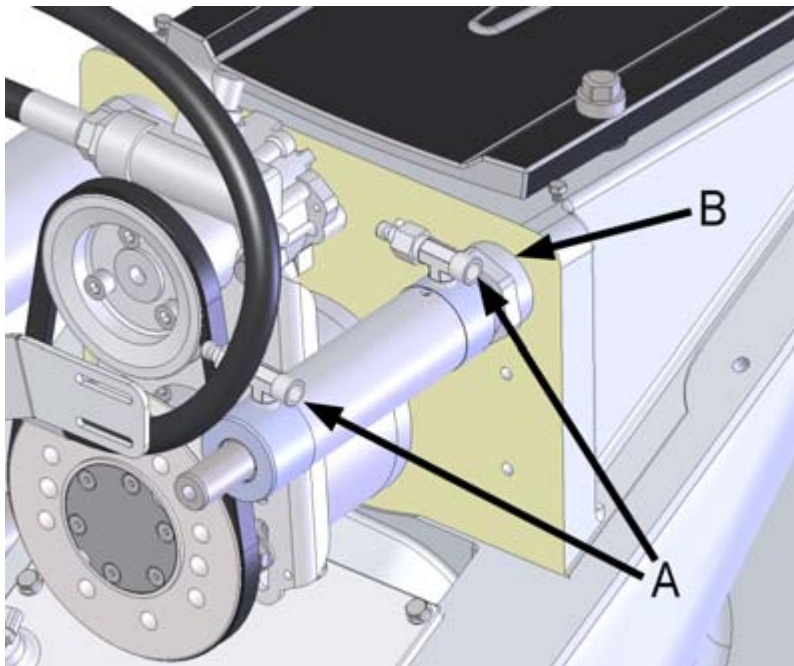

Figure 85. Cylinder hydraulic hoses
1. Remove the hydraulic hoses from the cylinder (figure 85, point A).
3. Open the fastening nut of the cylinder (figure 85, point B).